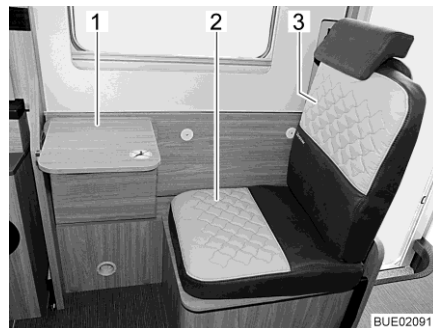
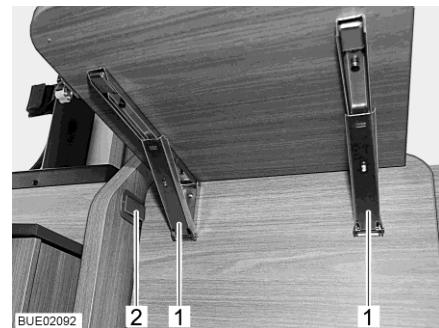

Fig. 24 Additional seat with folding table
Fig. 25 Catches on the folding table
- Attach the included seat cushion (Fig. 24,2) and the back cushion (Fig. 24,3).
- Swing the divan's front part upwards until it engages in the plastic catch (Fig. 25,2).
- Folding the table top away: Unlock both catches (Fig. 25,1) and swing table top (Fig. 24,1) downwards.